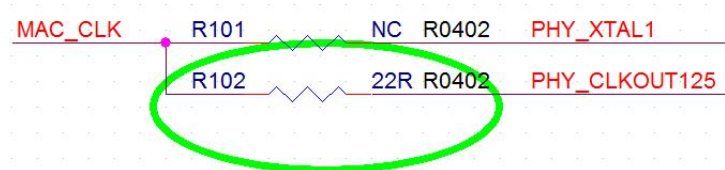

Figure 4-42 MAC CLK Branch Resistor
- The decoupling capacitor should be placed close to RK3399 power pin. Shown as Figure 4-42.